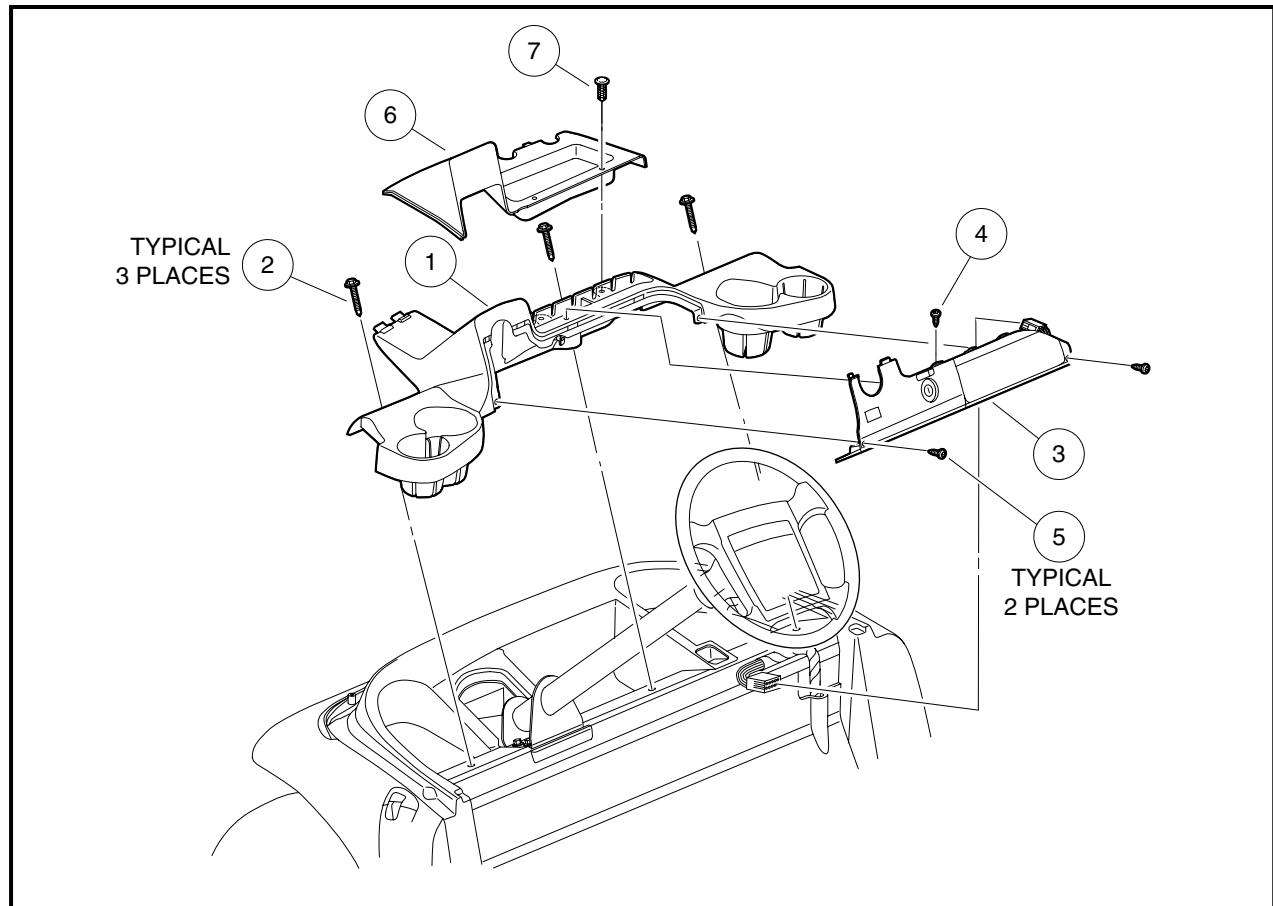

Figure 4-8 Dash Assembly
1. Remove two screws (5) at sides and one screw (4) on top of instrument panel (3) (**Figure 4-8, Page 4-14**).
2. Tilt instrument panel up to release it from the dash assembly (1).
3. Disconnect the electrical connector on the passenger side of the instrument panel (3) and remove the panel.
4. Remove two barrel fasteners (7) to release dash tray (6).
5. Remove three screws (2) and remove dash assembly (1) from vehicle.
1. Position dash assembly (1) on vehicle. Make sure tabs on the forward edge engage to front underbody. Secure assembly in place with three screws (2) (**Figure 4-8, Page 4-14**). Tighten screws to 8.8 ft-lb (12 N·m).
2. Position dash tray (6) in dash and secure with two barrel fasteners (7).